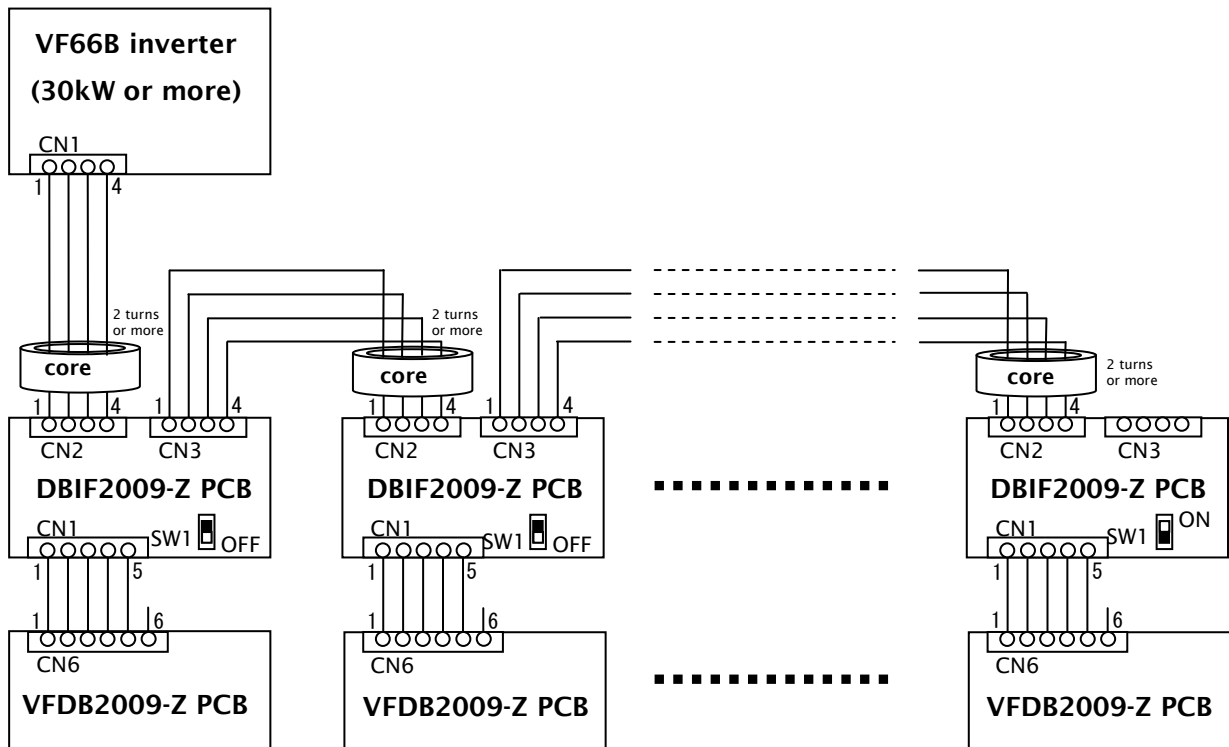
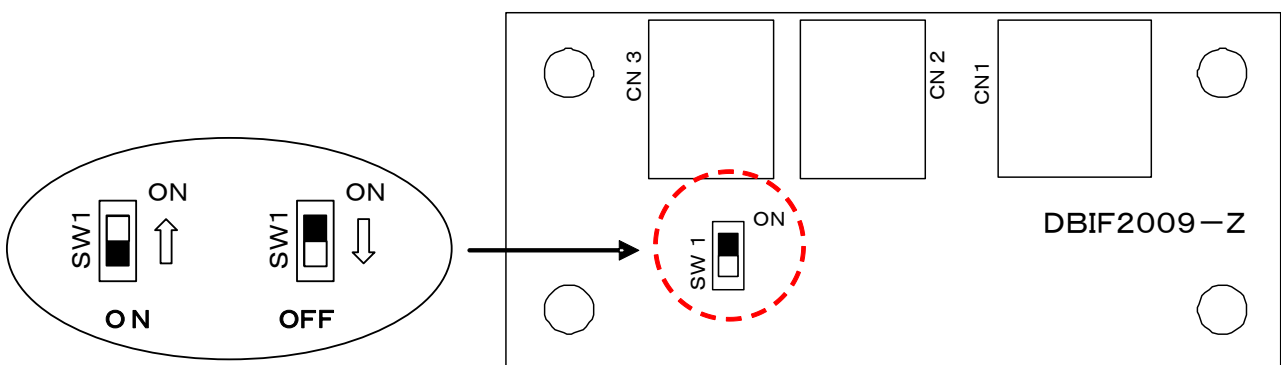

Figure 7.5 Connection and terminator switch set-up at the time of DB unit parallel operation (the maximum parallel number six sets)
Figure 7.12 Change of terminator on DBIF2009-Z PC board
- ⑦ The cable manufactured by the above-mentioned ⑥ is connected with which of CN2 of a DBIF2009-Z board, and CN3, or a vacant connector. When connecting two or more sets of DB units in parallel, a cable is connected with reference to Figure 7.5 and 7.11
- ⑧ Terminator switch SW1 on a DBIF2009-Z board is switched. If a switch is moved to the ON side, it will become Switch ON, and it will become Switch OFF if it moves to the opposite side. Refer to Fig. 7-5 and Fig. 7-12 for details.